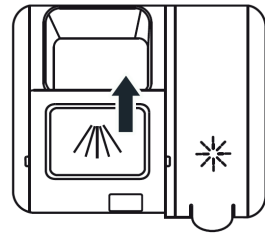

Fig. 9
3. Finally, close the flap by sliding it to the left (Fig. 9).